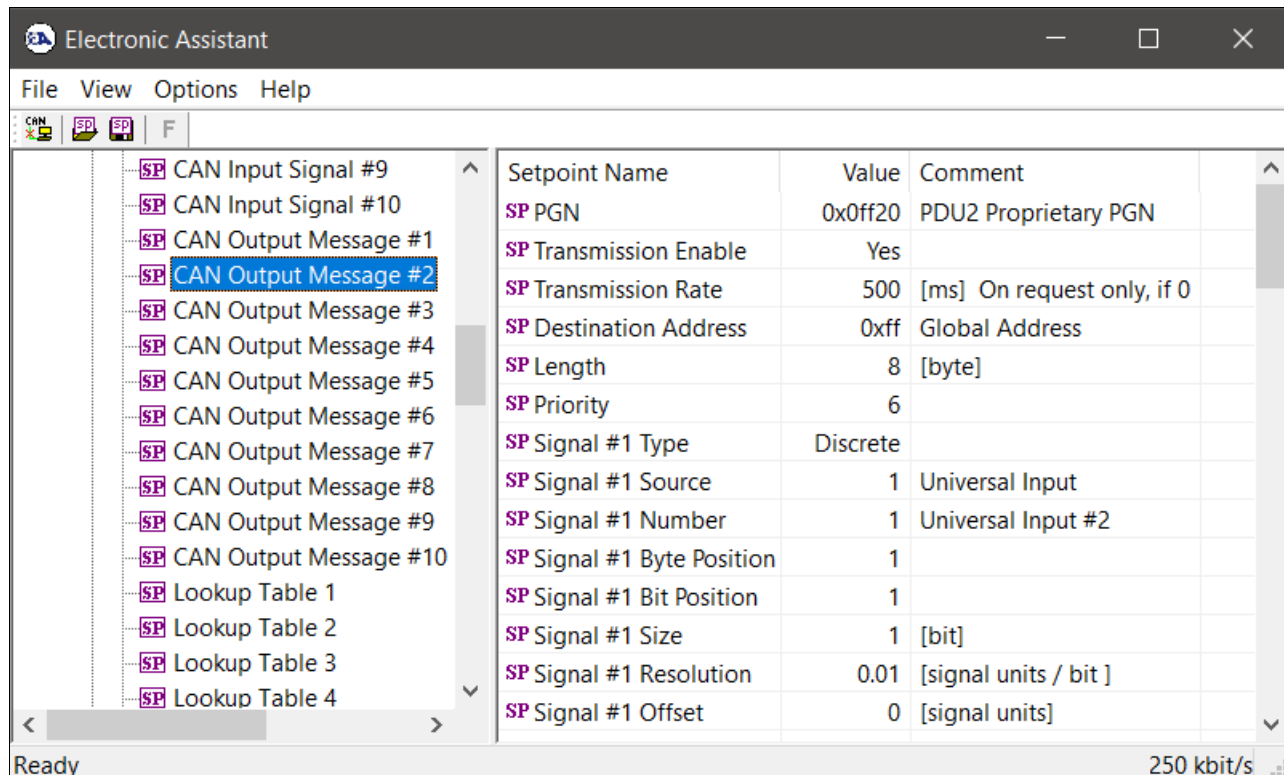

Figure 11. CAN Output Message #2 Example Configuration
Then configure *CAN Output Message #2*. Set common parameters: *PGN* to 65312(0xFF20), *Transmission Enable* to “Yes”, *Transmission Rate* to 500 ms. Keep default values for *Length* (8 bytes) and *Priority* (6), see Figure 11.